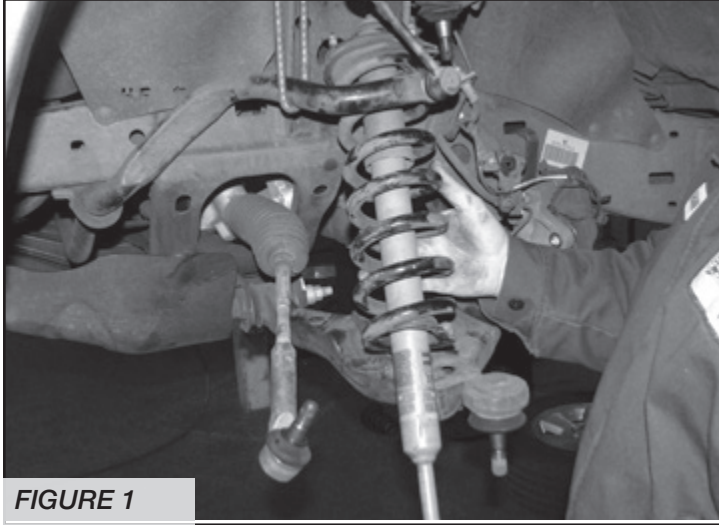

FIGURE 1
2. Starting on the driver side of the vehicle, remove the front shock from the truck by removing the tie rod end and upper arm from the spindle. Use a floor jack to support the lower arm when removing the upper arm. Remove the three nuts from the top of the shock and the bolt from the bottom. Remove the shock from the truck. **SEE FIGURE 1**